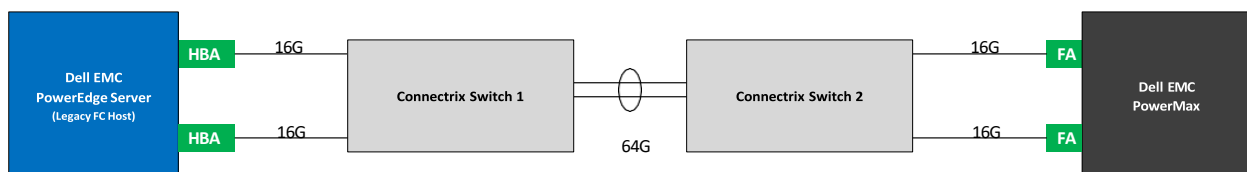

Figure 1
Figure 1 displays our starting topology. It is a traditional Fibre Channel SAN, where we have a Dell server with a Fibre Channel Host Bus Adapter (HBA) port that is attached to a two-switch Connectrix 32G Fibre Channel SAN. The HBA port is running 16Gb/s. The Connectrix SAN has two 32Gb/s aggregate ISL links between them. There is a Dell PowerMax with a Fibre Adapter (FA) front end port running at 16Gb/s.